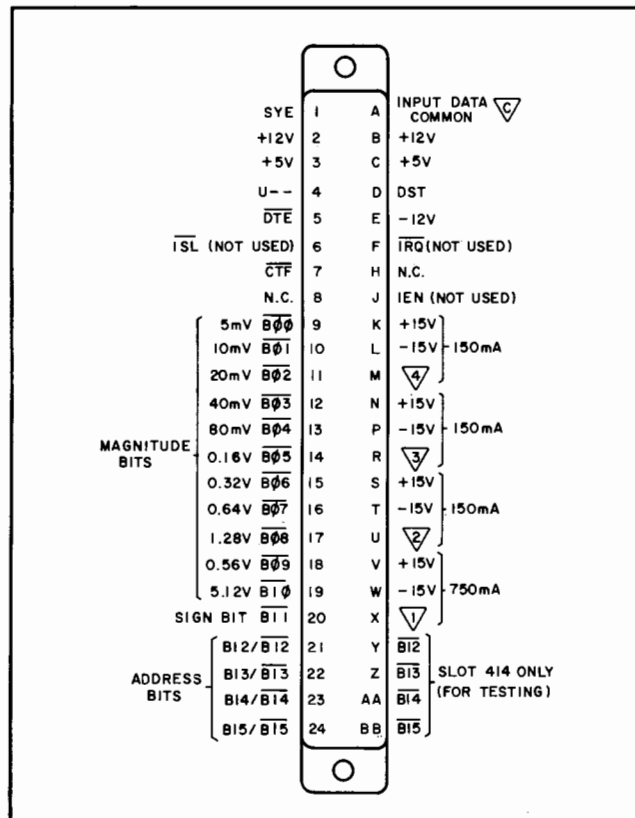

Figure 3-1. Multiprogrammer 400 Series Slot Connector
3-2 The 69321B D/A voltage converter card is controlled by the multiprogrammer unit in which it is installed. All dc operating power, address and data bits, and control signals are supplied to the output cards through the multiprogrammer main-frame connectors in slots 400 through 414. Figure 3-1 illustrates the signals present on the multiprogrammer 400-series connector.
3-4 As shown in Figure 3-1 and the component location diagram of Figure 7-1, four ±15 volt power sources are available to the 12-bit D/A voltage converter when it is plugged into a 400 series multiprogrammer slot connector. The four supplies are isolated from one another and from the multiprogrammer main power supply.
3-13 An output card is selected to receive new data when its associated address bits ($B_{12}/\overline{B_{12}}$ through $B_{15}/\overline{B_{15}}$), a unit select line ($U--$), and the multiprogrammer data strobe (DST) are all HI. Although both the true and complemented forms of the address bits are represented on Figure 3-1 (e.g. B_{12} and $\overline{B_{12}}$) only one of the two states is present on each of the four address gate lines when the card is installed in a multiprogrammer slot. For example, if the output card is installed in slot 405, then bits B_{12} (1), $\overline{B_{13}}$ (2), B_{14} (4), and $\overline{B_{15}}$
(8) will be present on the address lines; and all four lines will be HI when slot 405 is addressed. The $U--$ line is HI when the associated multiprogrammer unit is selected as part of a control word. The unit selection is stored by the master unit and it remains in effect until a different unit is selected by a later control word. The data strobe goes HI when the multiprogrammer receives the computer Gate input. Note that the card must be addressed and DST received at least once in order for the SYE relay (and, thus, the card output) to be energized when SYE is programmed on.
3-17 Positive output voltage levels from 0 to +10.235 volts are programmed in straight binary form. The output voltage level will be equal to the decimal equivalent of the programmed binary number, times 5mV. Sign bit B_{11} is programmed to a binary 0 for positive values. Figure 3-1 illustrates the weight, in terms of positive output voltage, of each of the 11 magnitude bits. Table 3-1 lists some examples of the binary numbers required to program positive and negative output voltages and their decimal equivalents.